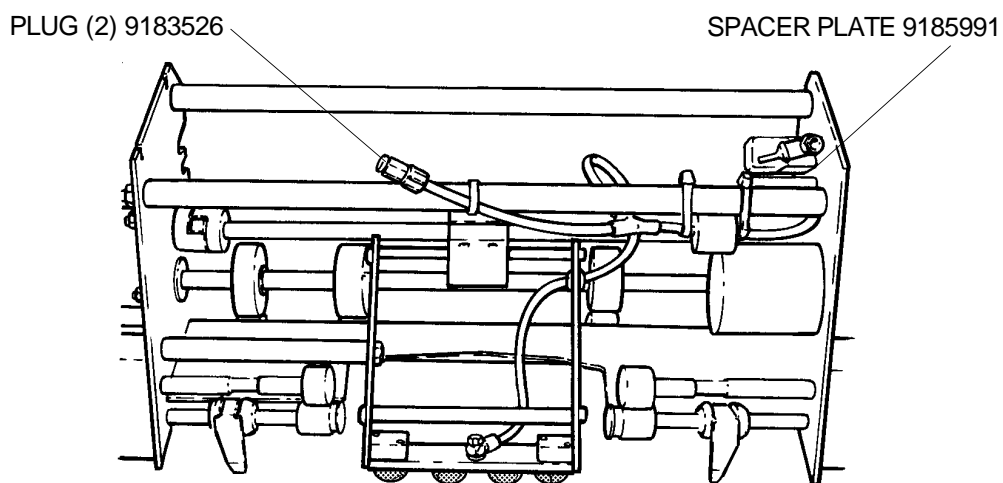

figure 4
12. Remove indicated parts on figure 4. Install new parts.